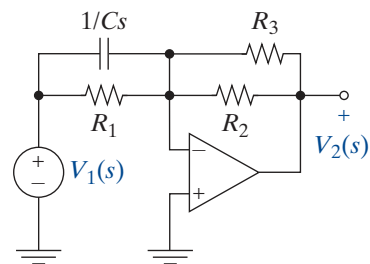

FIGURE P11-8
- 11-8 Find the driving point impedance seen by the voltage source in Figure P11-8 and the voltage transfer function $T_V(s) = V_2(s)/V_1(s)$.